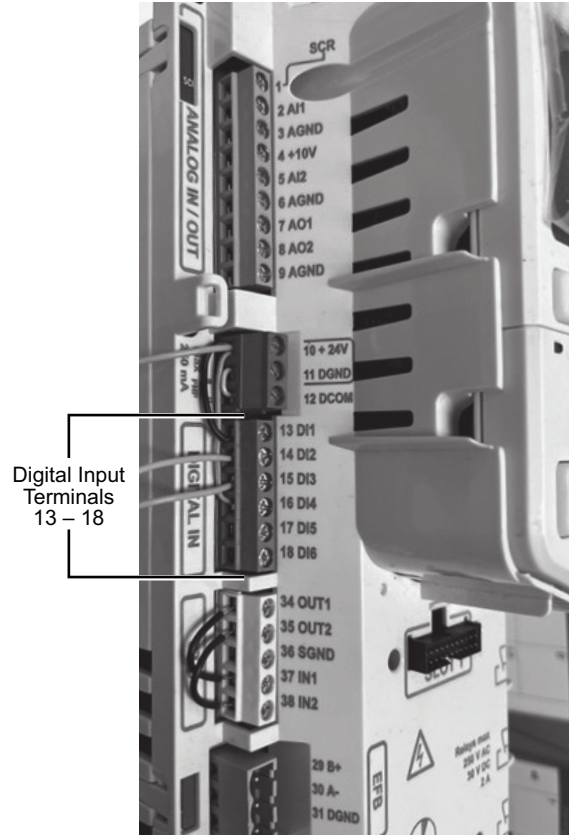

Fig. 76 — Digital Input Terminal Block Location on ACH580 VFD
3. Disconnect the DI1 input at Terminal 13 (see Fig. 76 for location of DI1).